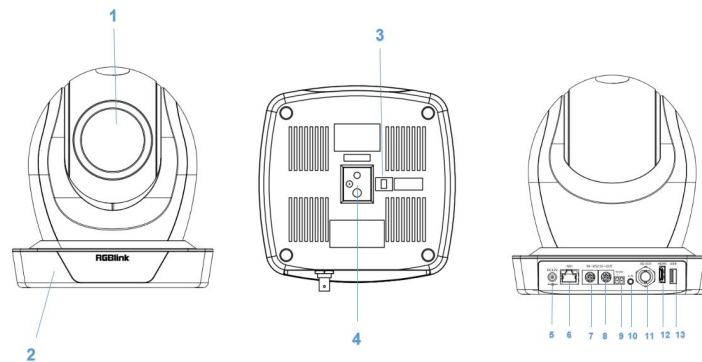

Figure 2.1 Camera Interface
- a. Network Cable Connection Port: refer to No.12 in Figure2.1
- a. HDMI Video Cable Connection: refer to No.11 in Figure2.1.
- a. 3G-SDI video cable connection: refer to No.10 in Figure2.1